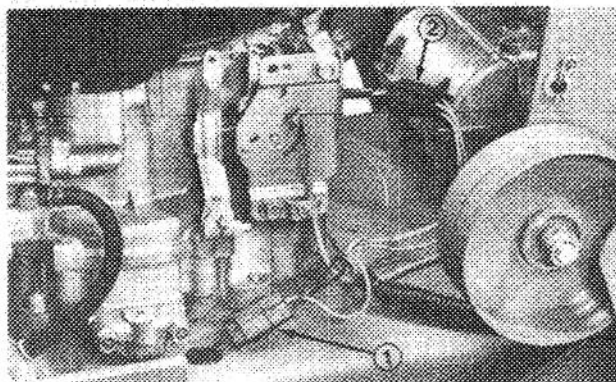

Figure 3
1. Secure clutch and engine in-line connectors (Fig. 3).